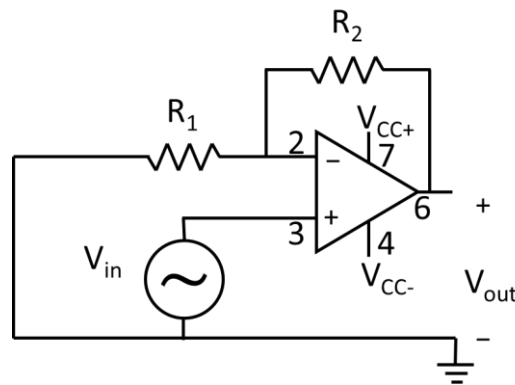

Figure 5: Non-Inverting Amplifier
2.1 Build the circuit in Figure 5 and choose R_1 and R_2 such that the circuit will provide you with a gain of 3. You may need to use series and parallel combinations of resistors for R_1 and R_2 . Connect V_{CC-} and V_{CC+} to the power supply and set them at -15 V and 15 V, respectively. Apply a sine wave with 1 V peak-to-peak voltage and a frequency of 2 kHz, with a DC offset of 0.5 V. Monitor both the input and output voltages, with respect to ground, using the oscilloscope. Measure the gain of the circuit. Does the circuit amplify both AC peak-to-peak and DC offsets equally?